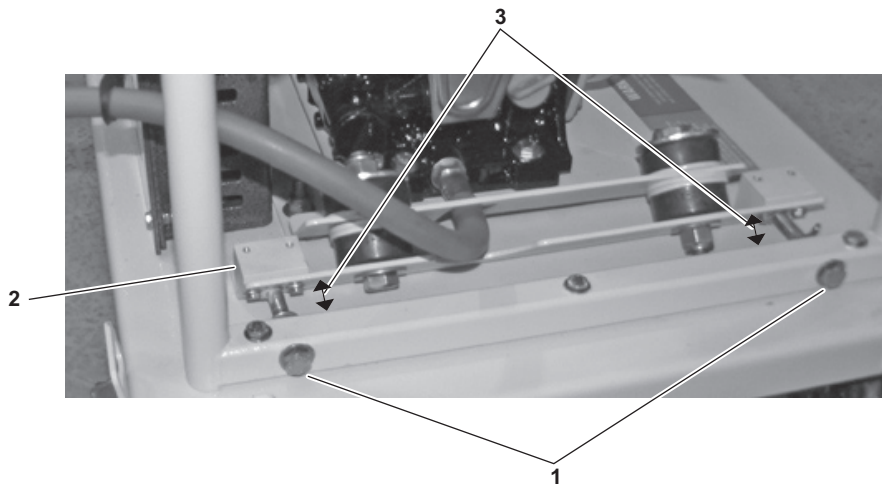

Figure 6-5. Jacking Bolts of the Tensioning Assembly
- (4) Adjust the engine position by turning the jacking bolts (figure 6-5, item 1) of the tensioning assembly (figure 6-5, item 2) CCW with a 9/16 inch wrench until enough slack has been created in the v-belt to remove it from the sheave and flywheel. Turn each jacking bolt an equal number of turns to keep the engine base plate parallel with the frame support. Measure the distance (figure 6-5, item 3) with a ruler.
- (5) Remove the v-belt from the sheave and flywheel.
- (1) Install v-belt onto flywheel and sheave.
- (2) Using 9/16 inch wrench, turn the jacking bolts (figure 6-5, item 1) of the tensioning assembly (figure 6-5, item 2) CW to slowly create tension on the v-belt.
- (3) Adjust the v-belt to proper deflection IAW procedures in paragraph 6.4.2.b.